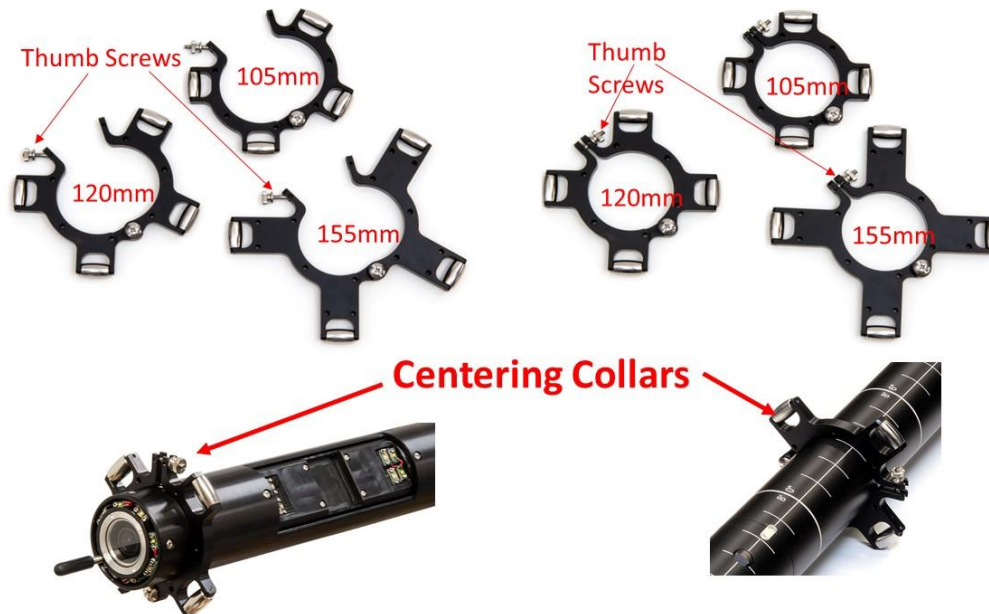
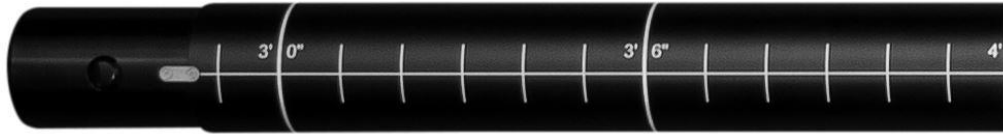

Figure 8-Loosen Thumb Screws and Attach Centering Rings
Figure 9 1st Pole Section
- (6) **Refer to Figure 8:** Mount the Centering Rings to the Camera Head first, loosen the integrated thumb screw. Place the appropriately sized ring, 105, 120, or 155mm around the camera. and tighten the thumb screws. Next place centering rings on the pole(s) as needed. Refer to figure 9 on next page. The Camera Head & single pole are pictured with the Centering Rings attached.
The following are general guidelines concerning the use of the Insertion Poles. Referring to Figure 9, when attaching the 1st Pole to the camera, ensure that graduations begin at 3 ft and ends at 7 ft. 6 inches